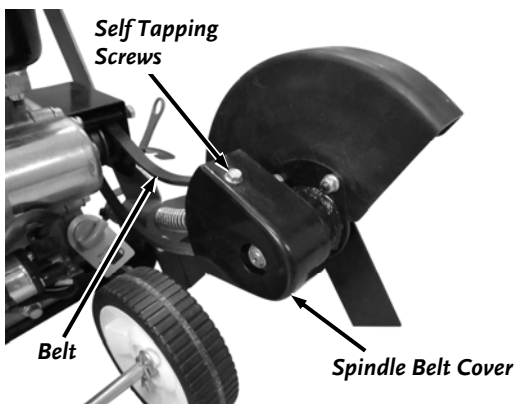

Figure 21
- Remove the two self tapping Screws from the Spindle Belt Cover using a 3/8" Wrench and remove the Spindle Belt Cover (**Figure 21**).